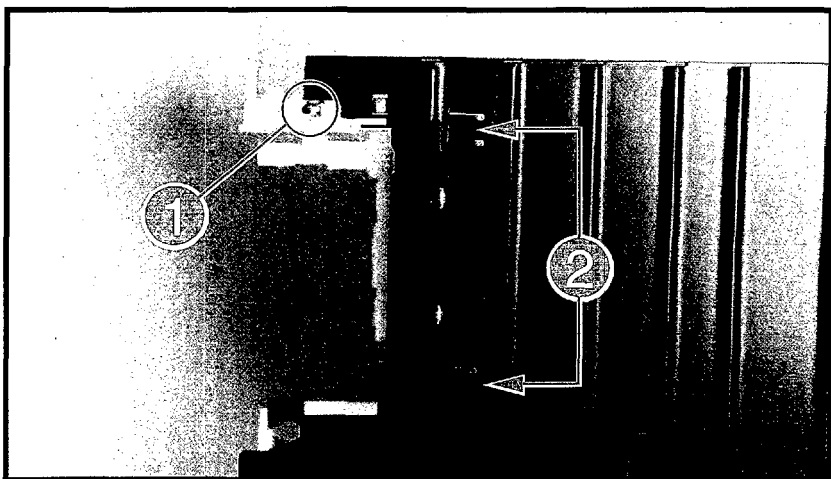

Figure 6-45 Removing the Small Media Roller Assembly
2. Turn the Feeder Guide black side up and remove the (1) screw from the Small Media Roller bracket (Figure 6-45, callout 1). Remove the bracket and drive shaft with the attached gear.
3. Using a small, flat-blade screwdriver, push the (2) retaining tabs downward to release the Roller Assembly (Figure 6-45, callout 2). Slide the assembly off the Feeder Guide.